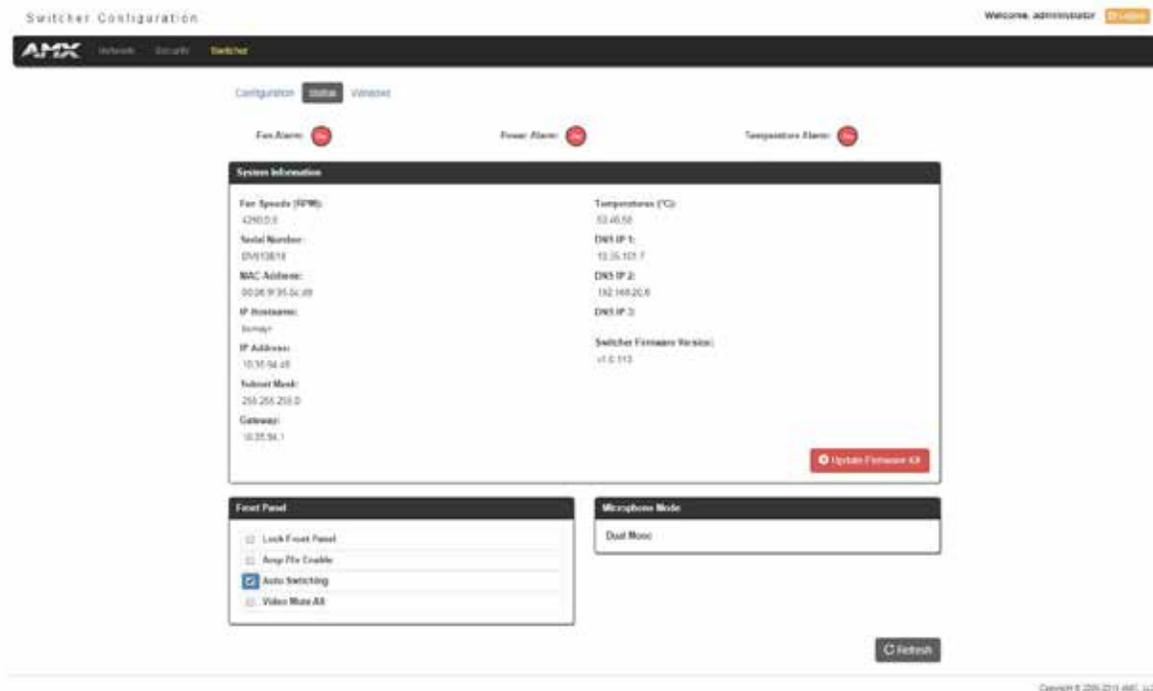

FIG. 105 Switcher Status page
4. Select **Status** to view the status information for the Presentation System (FIG. 105).